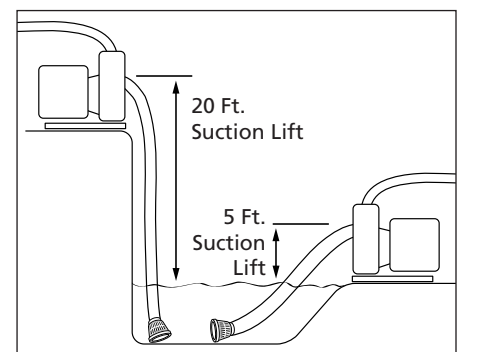

Figure 1
1. The pump should be placed as close as possible to the liquid being pumped. A pump with 20 foot suction lift will not remove water as quickly as a pump with 5 foot suction lift (Figure 1).